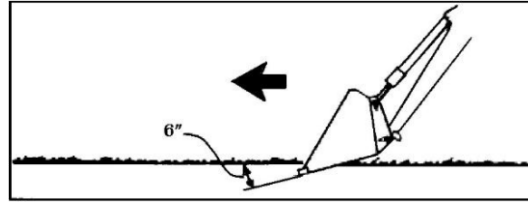

Fig 4.15. Adjustment to the bucket.
- Hold the depth by feathering the bucket control to adjust the cutting lip up or down. When the front ties enter the notch, adjust the lift to maintain proper depth shown in figure 4.15.